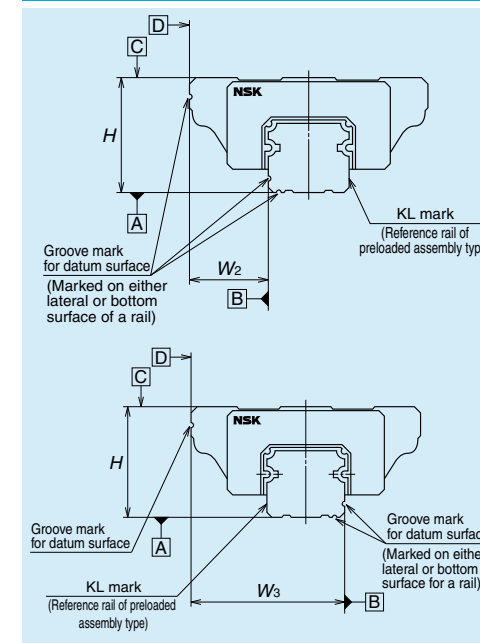

Fig. 4.1 Assembled dimensions
- Table 4.1, Fig. 4.1 and Fig. 4.2 show accuracy characteristics.
Characteristics	Definition (Figs. 4.1 and 4.2)